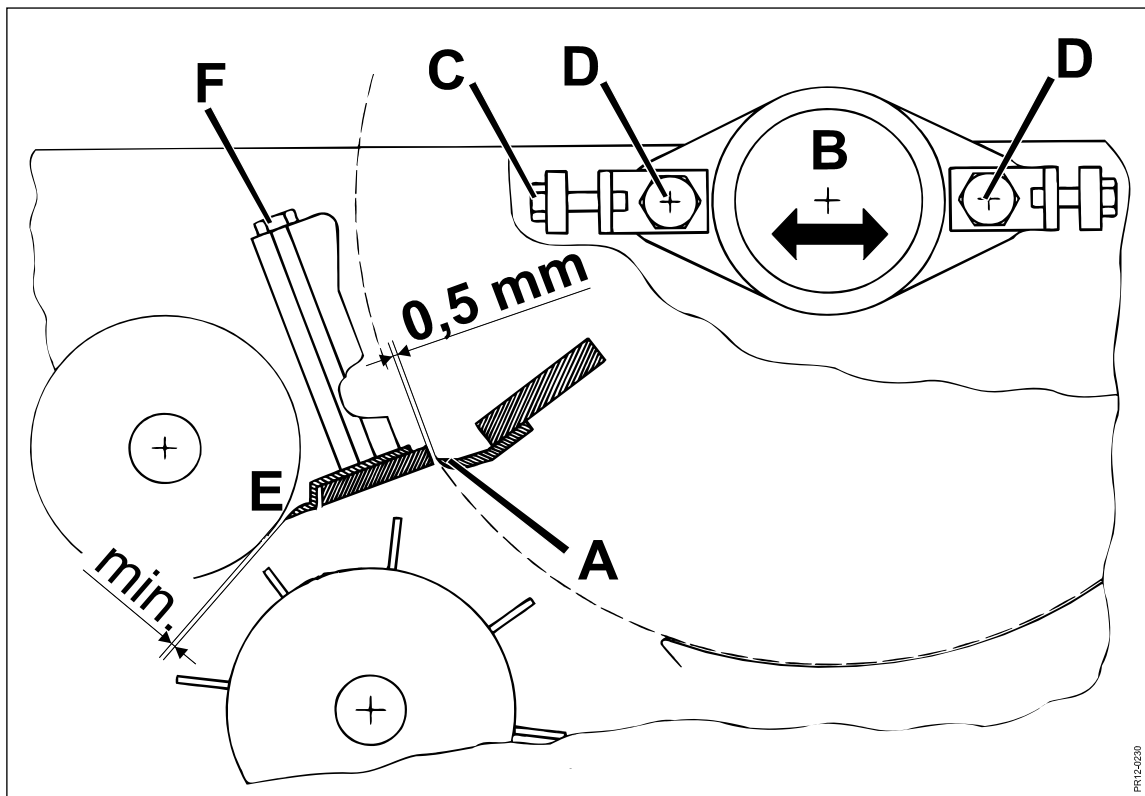
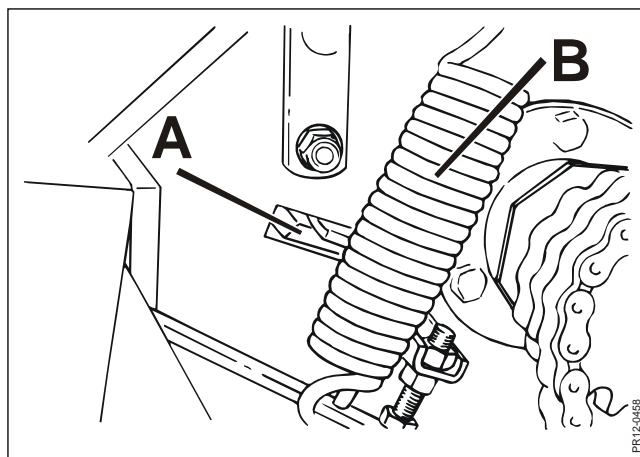

Fig. 4-15
Fig. 4-16
**Fig. 4-15** The distance **A** between the blades of the rotor and the shearbar must be checked regularly using the gauge supplied (distance measuring device). A distance of 0.5 mm should be aimed for. If it is necessary to adjust the distance, loosen the two bearing housings **B** and adjust using the screws **C**. When the distance has been checked, tighten the bolts **D** of the bearing housings using a torque wrench to 40 kgm (400 Nm).
**Fig. 4-16** The scraper is dismantled by removing the screws **F** (on Fig. 4-15), which also secure the shearbar, after which the scraper and shearbar can be pulled out of the opening **A** in the side of the rotor housing. The spring **B** for the serrated roller must first be loosened or dismantled to allow sufficient space. If the shearbar has been worn, it can be reversed to obtain a new sharp coulter.